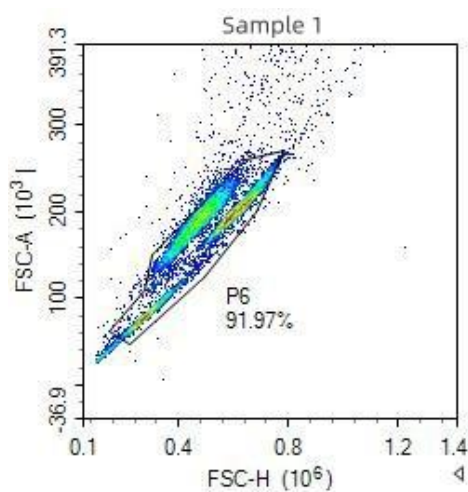

Figure 1
- (1) Establish a density plot template with FSC-H as the X-axis and FSC-A as the Y-axis. Set gates to exclude debris and aggregated microspheres, as shown in Figure 1.